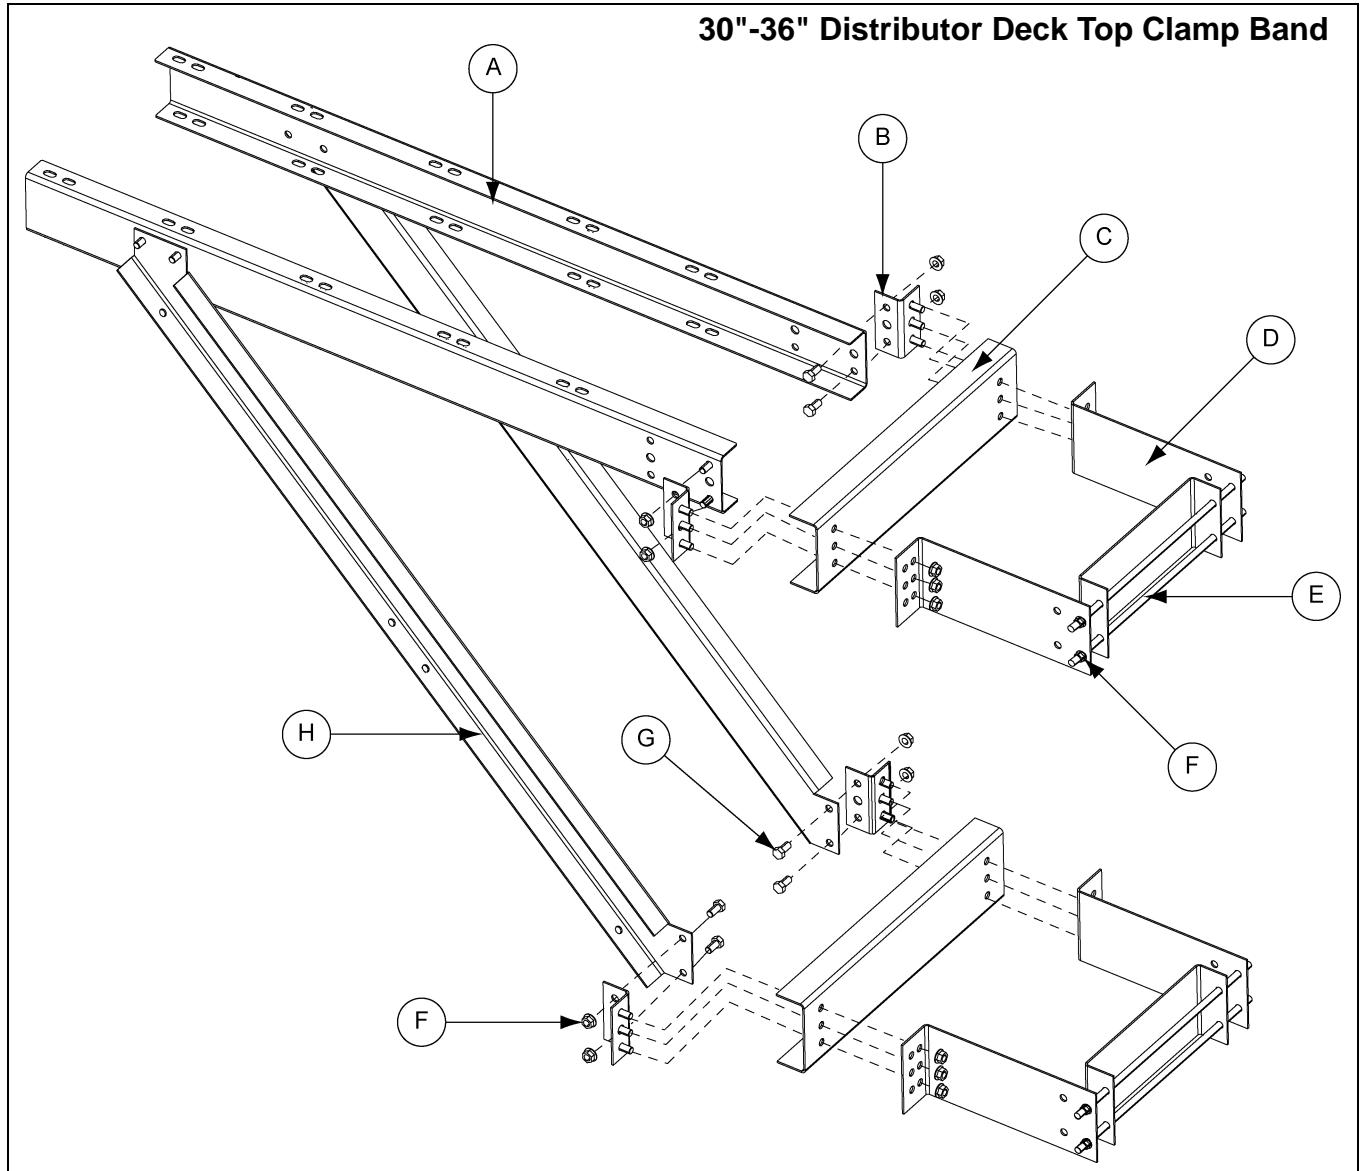

Figure 12A
1. Slide rods of clamp rod weldment (DSP16005) (E) into outside set of holes of clamp bands for both the top and bottom assemblies. Fasten together using four (4) 1/2" hex flange nuts (S-8506) (F) per each clamp.
2. Assemble the top and bottom clamp band weldments, clamp channel (DSP16001) (C) and clamp clips (GSB30144) (B) at same time around the trunking. Place clamp rod weldment (DSP16005) (E) assembly around the trunking leg and line up holes on clamp channel (DSP16001) (C) and clamp clips (GSB30144) (B) with the **inside set of holes** on the clamp bands (DSP16002) (D). Fasten all together using six (6) 1/2" x 1" bolts (S-7935) (G) and nuts (S-8506) (F). *(See Figure 12A on Page 98.)*
3. Line up the holes located at the end of the distributor support channels (A) and brace channels (H) with the holes on the clamp clips (GSB30144) (B). Fasten together using four (4) 1/2" x 1" bolts (S-7935) (G) and nuts (S-8506) (F).